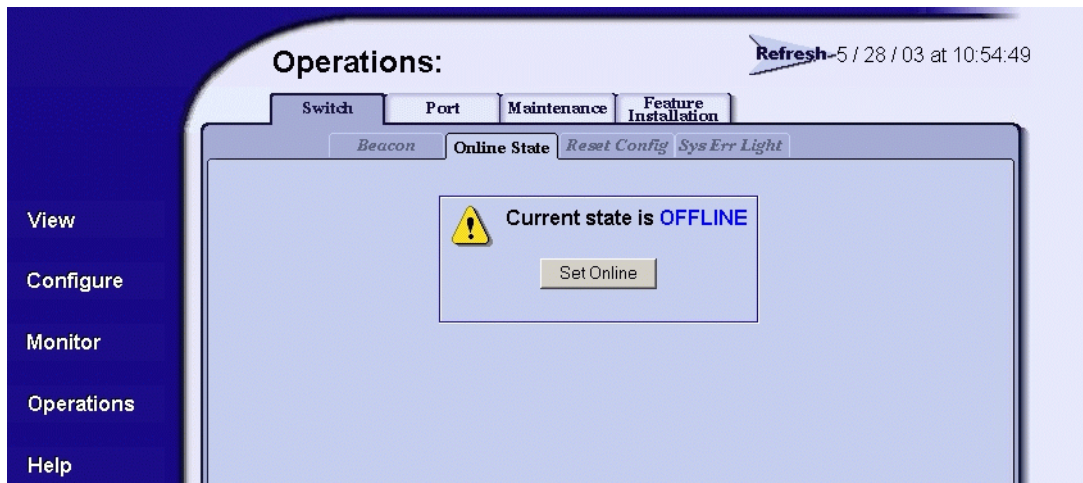

Figure 4-32 Operations Panel (Switch Page with Online State Tab)
2. Click the *Online State* tab. The *Switch* page displays with the *Online State* tab selected (Figure 4-32).
2. Click the *Online State* tab. The *Switch* page displays with the *Online State* tab selected (Figure 4-32 on page 4-49).